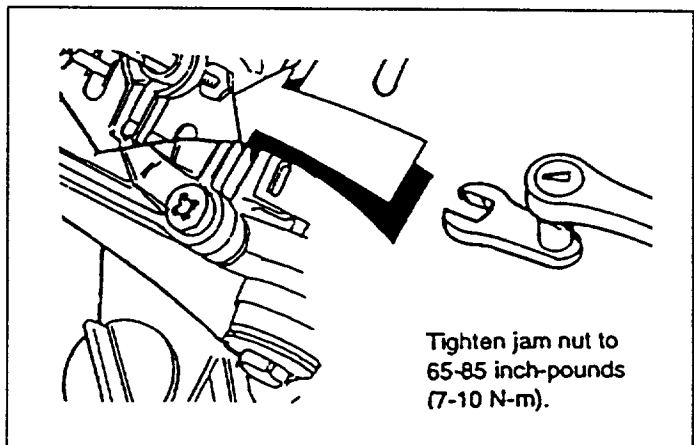

FIG. 13
- When valve clearance is correct, hold pivot ball stud with allen wrench and tighten rocker arm jam nut with a crows foot. Tighten the jam nut to 65-85 inch-pounds torque. After tightening the jam nut, recheck valve clearance to make sure it did not change (Fig. 13).